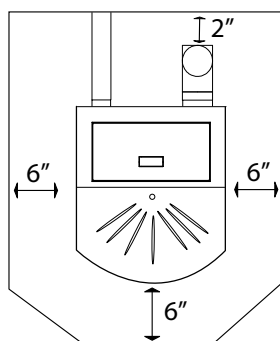
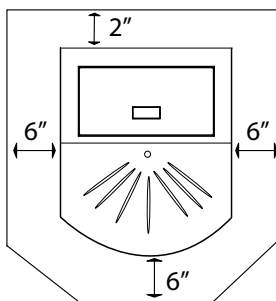

Figure 1
Figure 2
**SEE FIGURE 1.** When stove is vented straight through the wall and the clean out t-vent is on the exterior of the home, the minimum clearance is 2" from the back of the stove to the wall. **SEE FIGURE 2.** The minimum floor protector material is 24 GA. sheet metal.
Figures 1 and 2: Pellet stove floor pad clearances